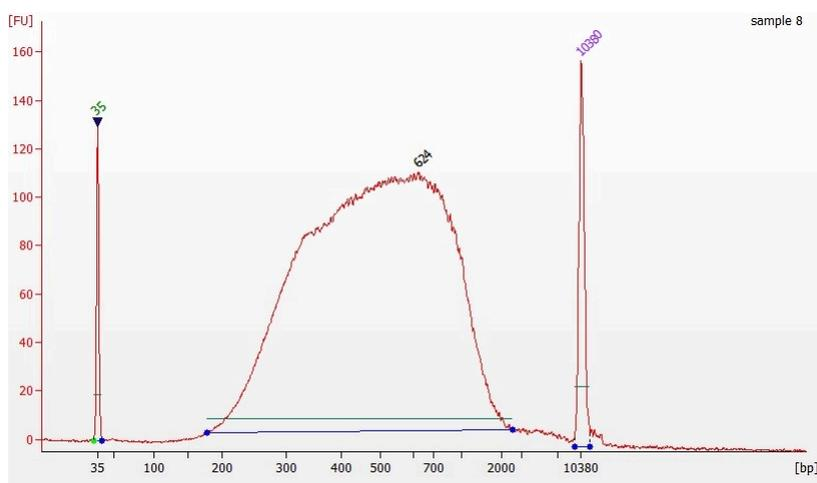

Figure 3 Agilent 2100 Bioanalyzer results of 200 ng gDNA#dissolved in pH8.0 1xTE buffer#single size selection fragmentation product#30 #C, 11 min#
**Tips** For the demo test, it is recommended to take 1  $\mu$ L of step 3.3.1.12 eluted product for Agilent 2100 High Sensitivity test (Figure 3), to ensure that the peak size of the selected fragments is approximately 600 bp to 750 bp. It should be noted that the peak size of the sequenced library is normally smaller than the peak size shown in the Agilent 2100 Bioanalyzer.